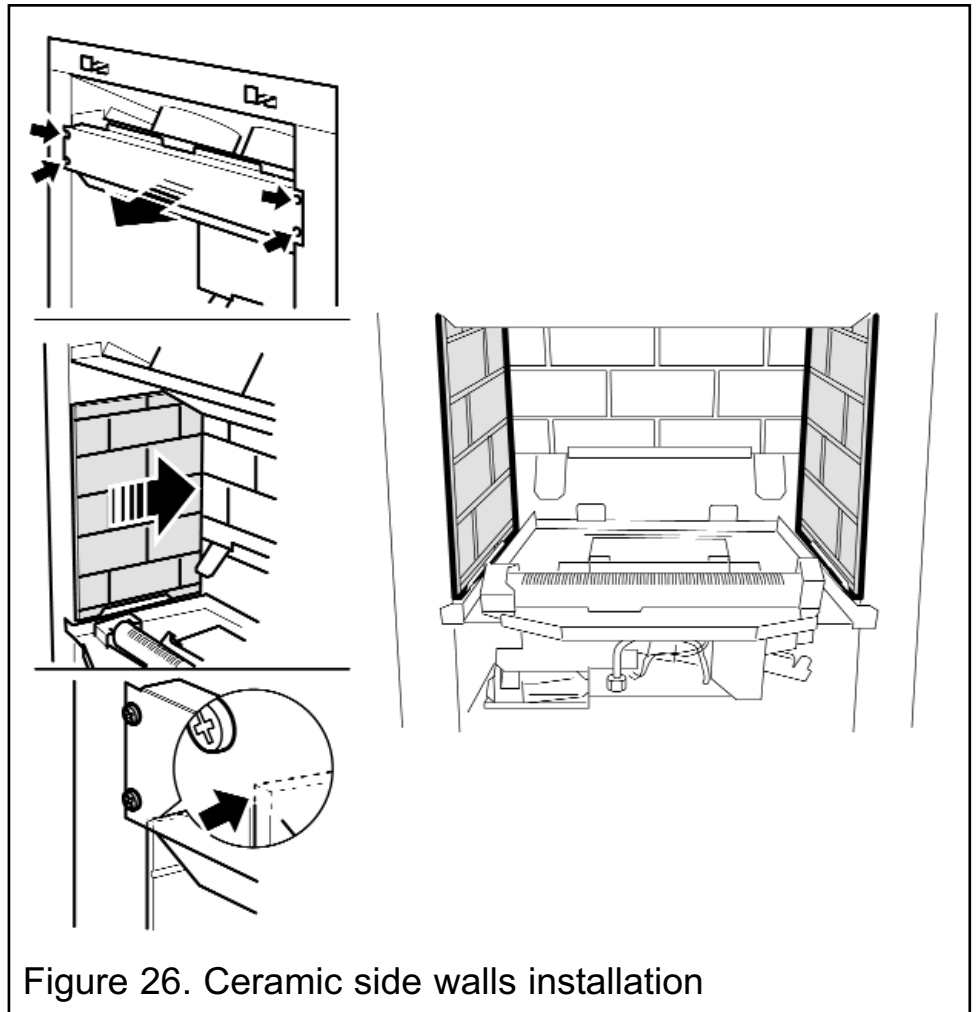

Figure 26. Ceramic side walls installation
2. Remove four screws from the spillage plate sides (See figure 26).
4. Fit the ceramic side walls against the side faces of the burner compartment. The bottom edges of the walls should rest in the ledges at the sides of the firebox. Slide them in from the front and ensure that they touch the rear wall. The friction between the side walls and the rear wall should hold the side walls in position (See figure 26).